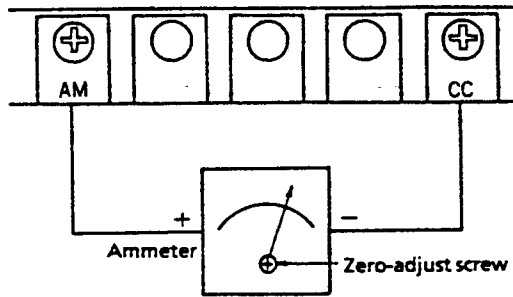

Figure 4.7 Terminals to use for connecting an ammeter to the inverter
1) —	Adjustments should be done figure 4.7 shows terminals to use for connecting an ammeter to the inverter during a run. For a trial, you can run your inverter at 50Hz. <span style="float: right;">50.0</span>
Figure 4.7 shows terminals to use for connecting an ammeter to the inverter.